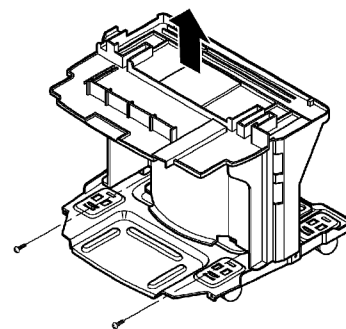

Figure 25
3. Pull the drain pan backward then lift it from the base. (See Figure 25)